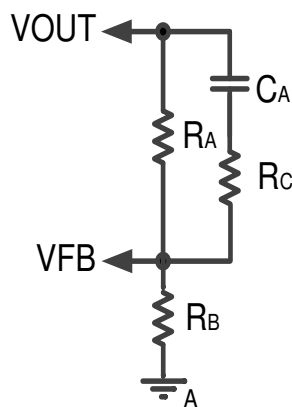

Figure 5: External Feedback/Compensation Network
The EN6382QI output voltage is programmed using a simple resistor divider network. A phase lead capacitor plus a resistor are required for stabilizing the loop. Figure 5 shows the required components and the equations to calculate their values.
**Recommendation 10:** Keep  $R_A$ ,  $C_A$ ,  $R_B$ , and  $R_C$  close to the VFB pin (Refer to Figure 5). The VFB pin is a high-impedance, sensitive node. Keep the trace to this pin as short as possible.